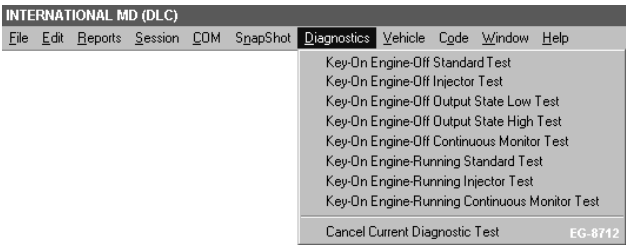

Figure 37 Diagnostics Drop-Down Menu
6. Click the Diagnostics drop-down menu and select Key-ON Engine-OFF Standard Test (See Figure 37, page 66).